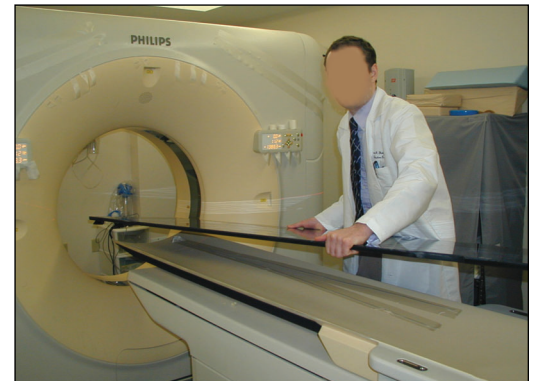

Fig. 61
2. Place the CT Overlay on the CT cradle overhanging the head end by 3–4 inches (Fig. 61). Align the CT Overlay on the centerline of the CT cradle (Fig. 62).